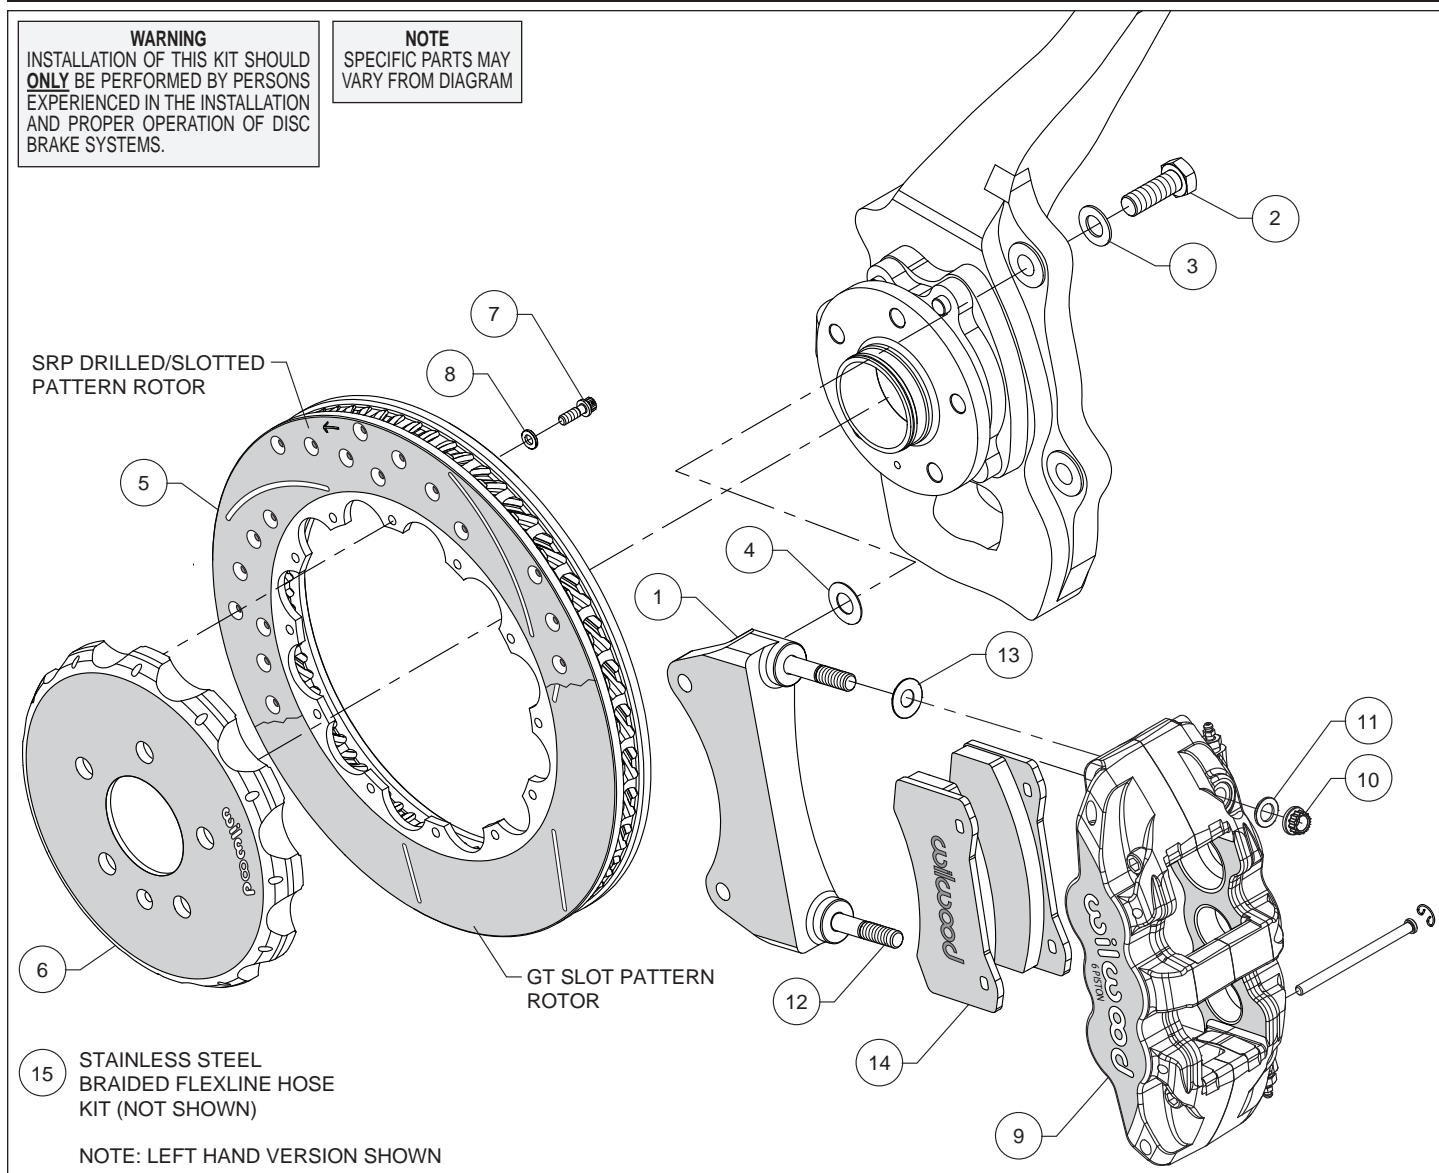

Figure 1. Typical Installation Configuration
Assembly Instructions (numbers in parenthesis refer to the parts list and Figure 1 on the preceding pages):
- The caliper mount bracket (1) should initially be installed with clean, dry threads on the mounting bolts. Orient the bracket as shown in Figure 1 and Photo 1, and install using bolts (2) and washers (3). Initially place one .029 thick shim (4) on each bolt between the bracket and upright, Figure 1. Temporarily tighten the mounting bolts. **NOTE:** *The bracket must fit squarely against the mounting points on the upright.* Inspect for interference from casting irregularities, machining ridges, burrs, etc. Later, after the caliper alignment has been checked, the mount bolts will be secured using red *Loctite*® 271.
- **NOTE:** *This kit contains distinct right and left hand calipers that must be mounted in a specific direction, as described below.* Lubricate the caliper mounting studs (12) with lightweight oil. Initially place one .030" thick shim (13) on each stud between the caliper and the bracket, as shown in Figure 1 and Photo 5. Mount the caliper (9) onto the bracket (1) using lock nuts (10) and washers (11), Figure 1. Ensure that the caliper is mounted so the largest pistons are at the rotor exit end of the caliper, in relation to the direction of rotor rotation. Temporarily tighten the lock nuts and view the rotor through the top opening of the caliper. The rotor should be centered in the caliper, Photo 6. If not, adjust by adding or subtracting shims (4) between the bracket and the upright. Always use the same amount of shims on each of the two mounting bolts. Once the caliper alignment is correct, remove the bracket mounting bolts (2) one at a time, apply red *Loctite*® 271 to the threads, and torque to 77 ft-lbs.
- Remove the two pad retaining pins from the caliper (9) by carefully popping out the pin retaining clips and sliding out the pins. Insert the brake pads (14) into the caliper from the bottom, Figure 1 and Photo 7. With the friction material facing the rotor, secure the brake pads in place with the pad retaining pins and